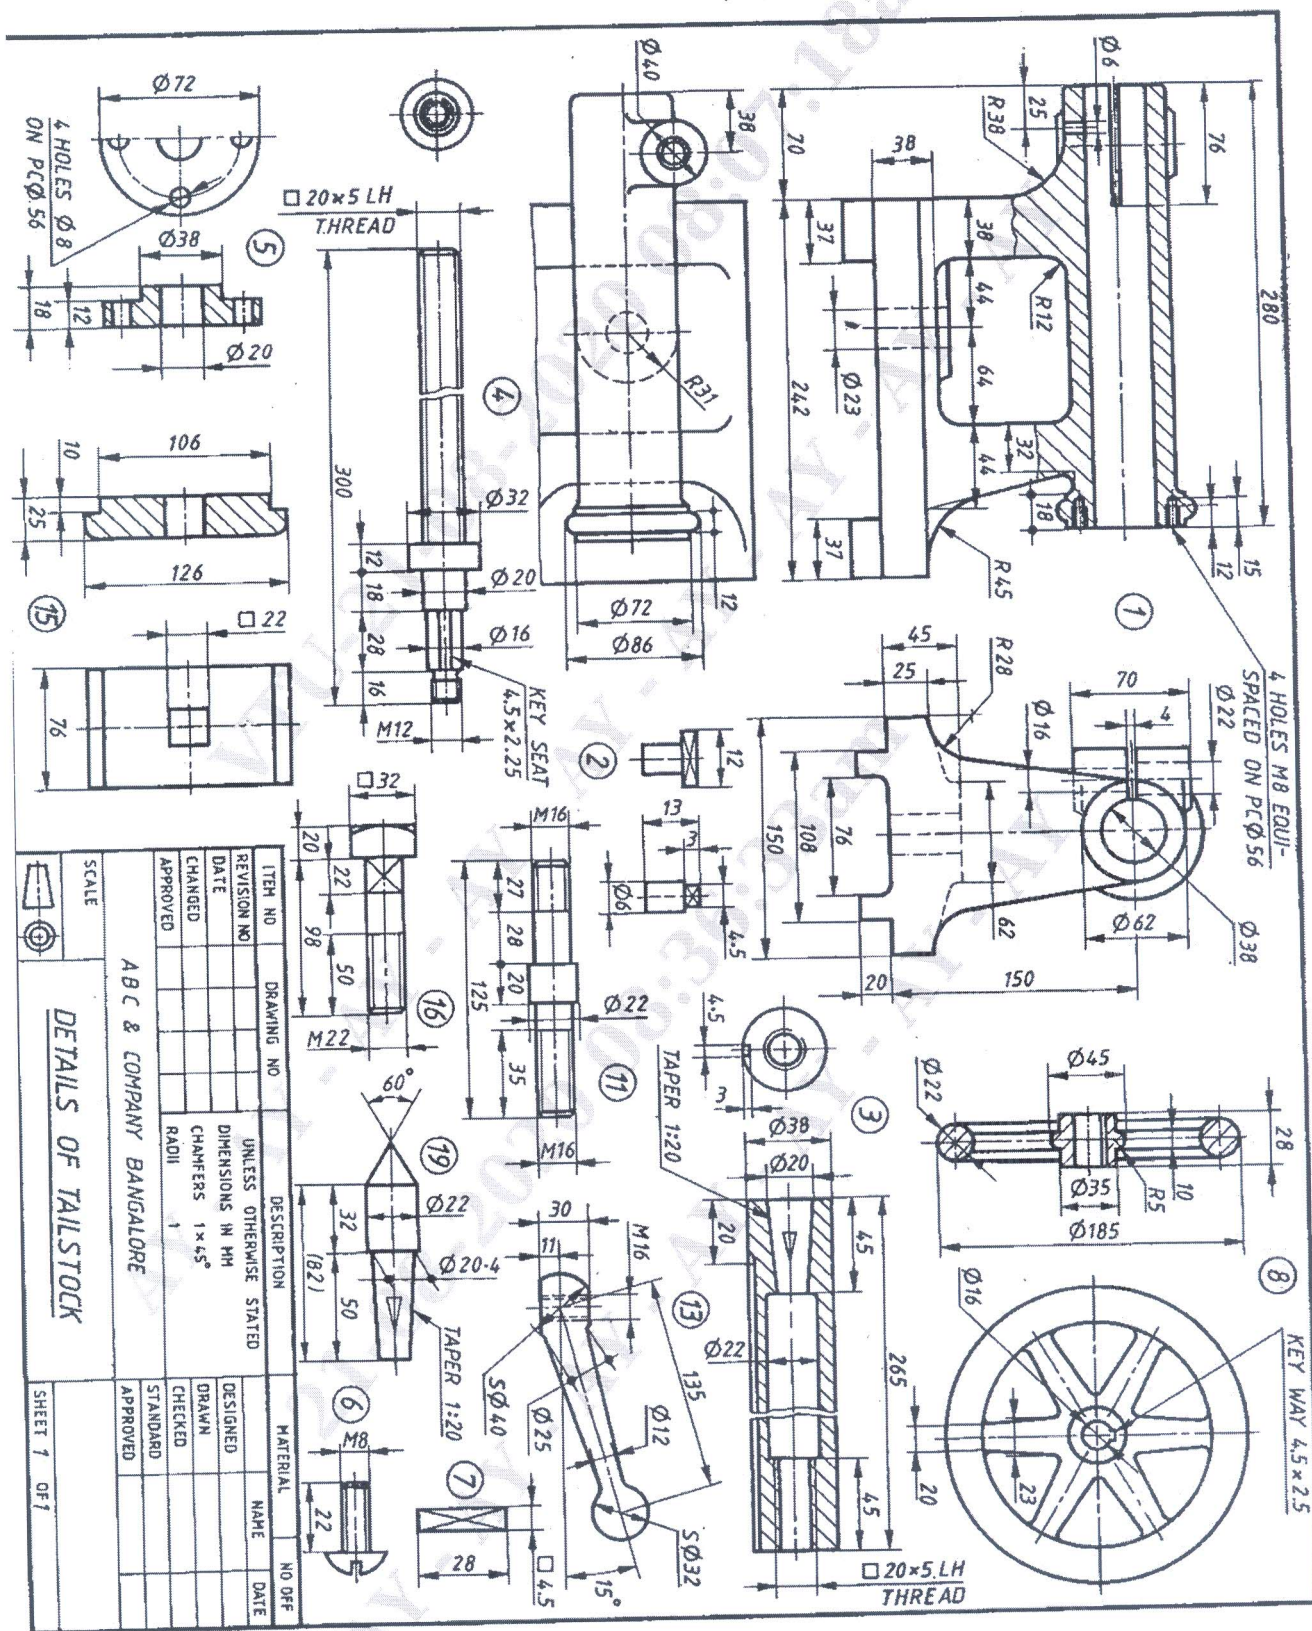

Figure 3 : details of a "tail-stock"
Q.No.6 Figure 3 shows the part drawing of a “TAIL-STOCK”. Assemble the Parts and show the following views.